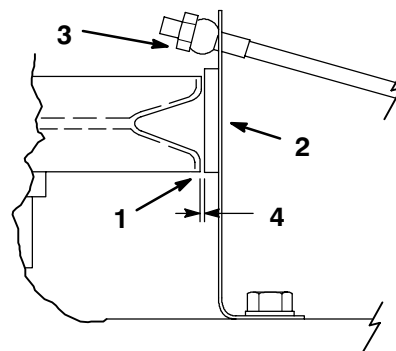

Figure 52
3. Using a feeler gage, measure between the bottom flange of (3) blade pulley and brake pad (Fig. 52). Adjust lock nut on brake rods to obtain proper clearance .020-.060 inch (.5-1.5 mm) (Fig. 52).